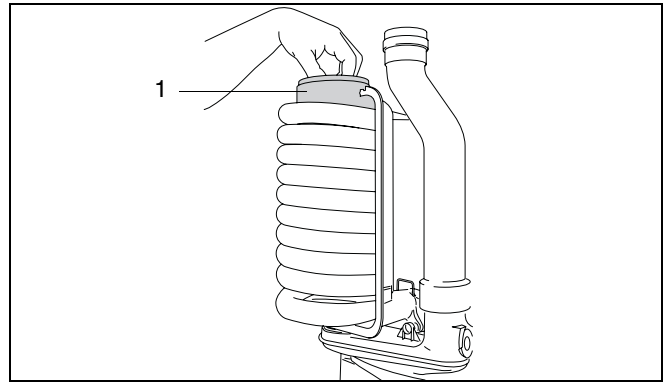

fig. 63 Remove restrictor baffle
- Remove the restrictor baffle from the heat exchanger (fig. 63, item 1).